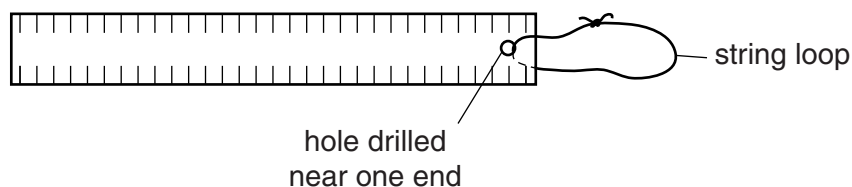

Fig. 2.1
- 1 A string loop should be attached near one end of one of the transparent rulers, as shown in Fig. 2.1.